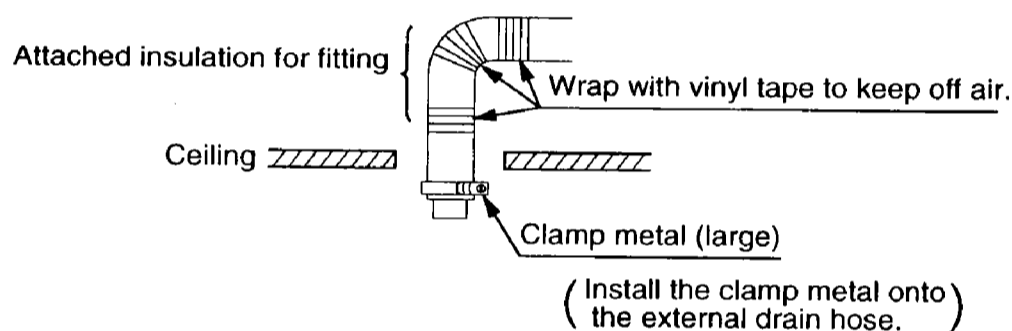

Fig. 6
5) Wrap the attached insulation for fitting, which was cut to length, around the external drain hose. (Fig. 6)